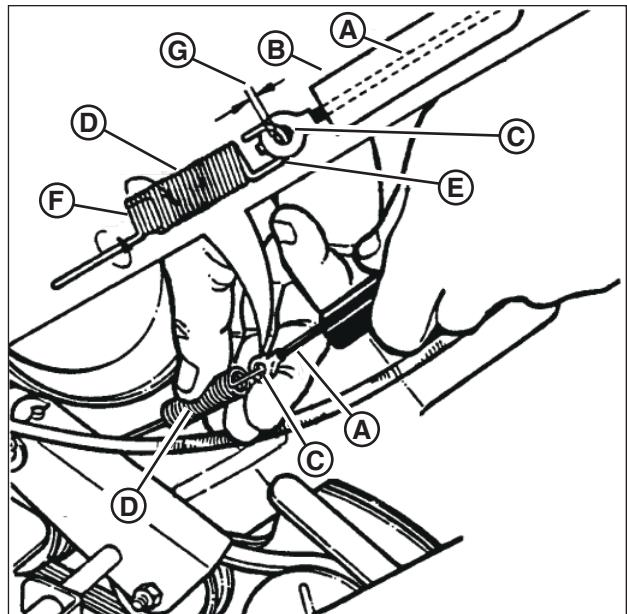

Figure 23: Wheel drive control adjustment
- The wheel drive control is properly adjusted when there is 1/16" to 1/8" clearance (**G**, **Figure 23**) between the inside of the spring hook (**E**) and the inside of the clutch cable eye (**C**) with the wheel drive control released.